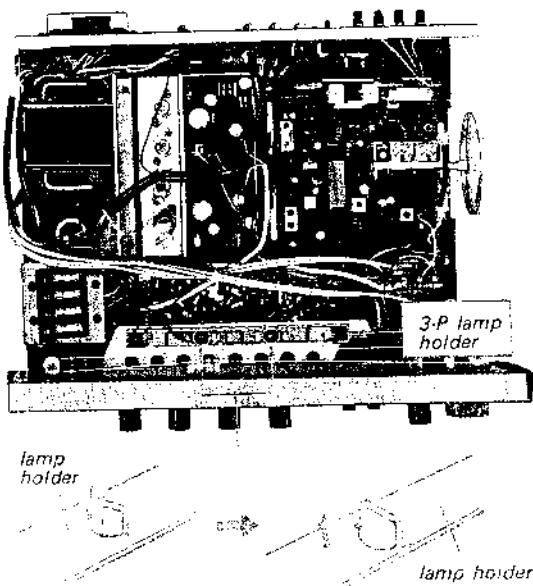

Fig. 2-13. Dial lamp replacement
1. Straighten the tab of the dial lamp shade to permit removal of 3-p lamp holder as shown in Fig. 2-13. This frees dial lamp holder.